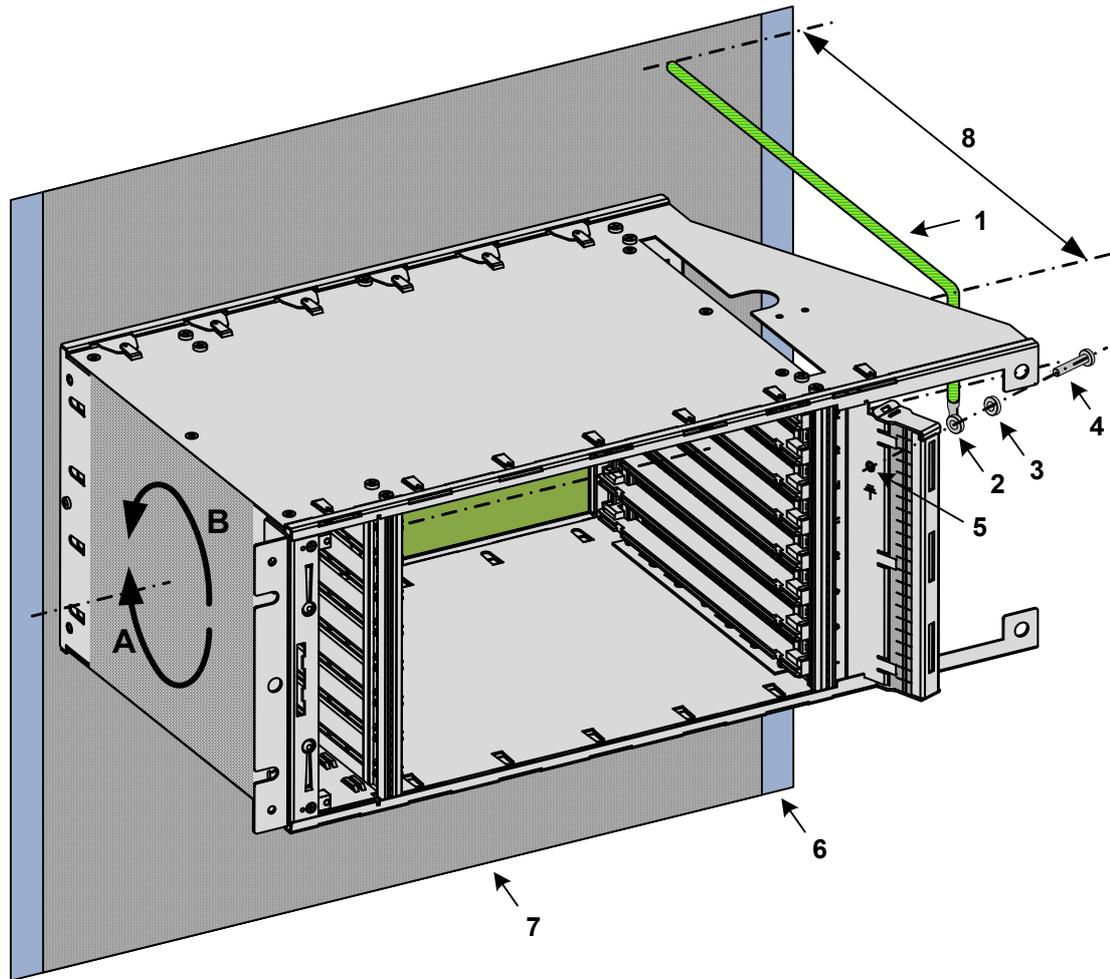

Figure 37: Earthing / bonding point of the FOX612 subrack
- As an alternative the subrack is connected to the protective ground via an earthing cable (refer to Figure 37):
1. Turn (A) the FOX612 subrack upside down around its longitudinal axis (Figure 37 shows the terminal in its normal position).
2. Lift the subrack to the rack in such a way that the crimp lug (2) of the earthing cable (1) reaches easily the earthing / bonding terminal (5) (bottom side!)
3. Fix the crimp lug (2) of the earthing cable (1) with the screw (4) (don't forget the washer (3)) on the earthing / bonding terminal (5).
4. Arrange the earthing cable (1) in such a way that it leaves to the right.
5. Tighten the screw (4) firmly.
6. Turn (B) the FOX612 subrack with the earthing cable (1) connected back in its normal position (Figure 37).